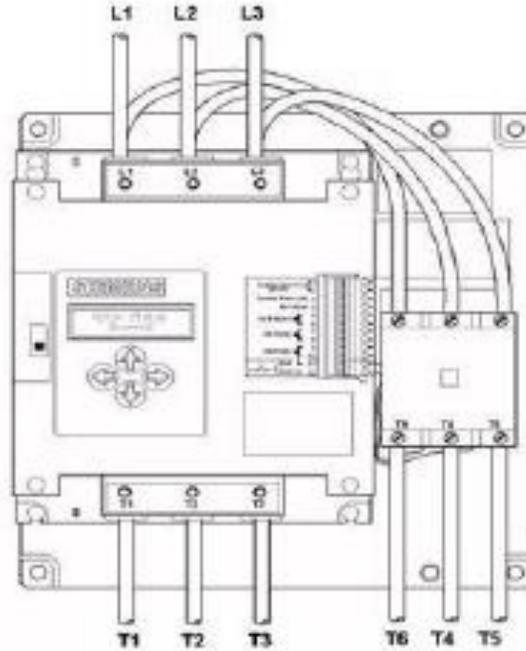

Figure 4: 6-Lead Delta Wiring Configuration
- Figure 4: 6-Lead Delta Wiring Configuration 5